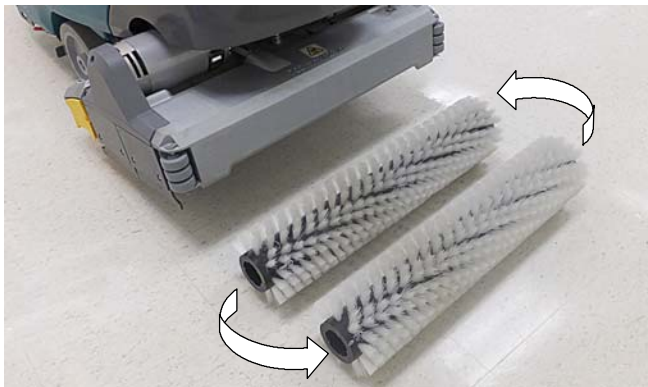

FIG. 111
- Cylindrical brushes - Rotate brushes from front to rear (Figure 111). Replace brushes when they no longer clean effectively.